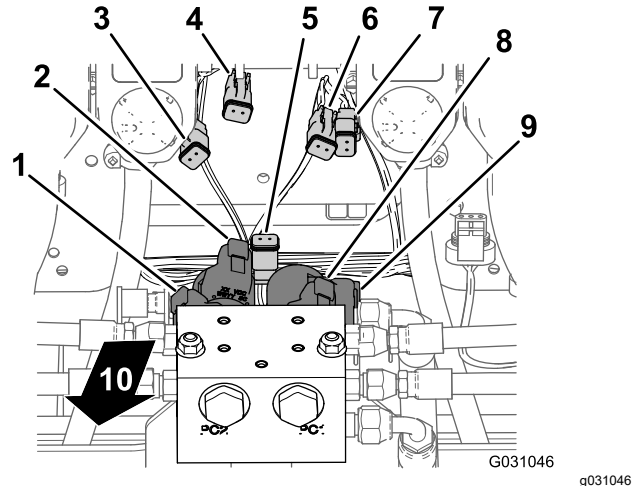

**Figure 103**
6. Connect the 3-pin connector for the harness of the agitation valve into the 3-socket connector of the 203 cm (80 inch) wire-harness branch labeled **Agitation Valve** (Figure 103).